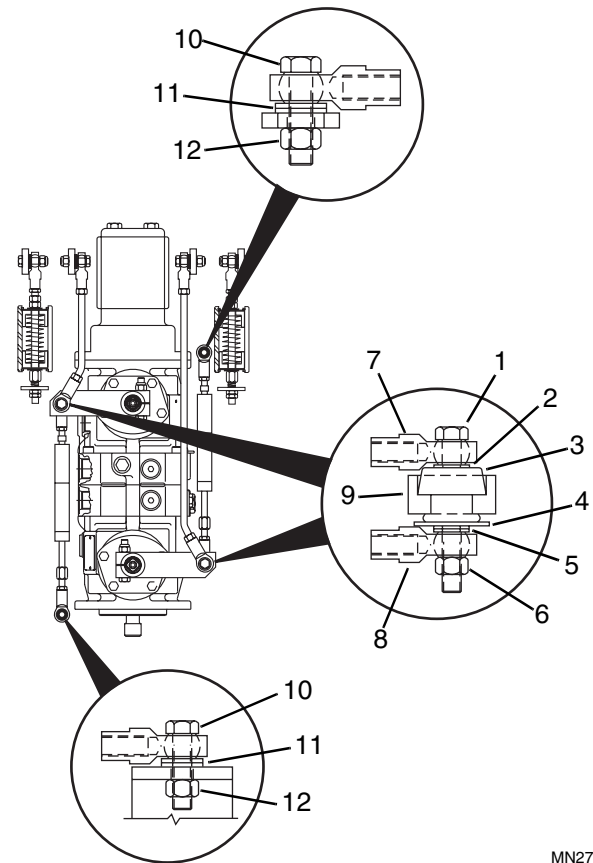

Figure 5-17 Linkage Installation
12. Install the capscrews (Fig. 5-17, 1), flat washers (2), rubber isolators (3), rebound washers (4), two flat washers (5), and new hex locknuts (6) that fasten the transmission control linkage (7) and shock absorbers (8) to the transmission levers (9) on both sides of the control pump assembly.
13. Install the capscrews (Fig. 5-17, 10), two flat washers (11), and new hex locknuts (12) that fasten the free end of each shock absorber to the vehicle on both sides of the control pump assembly.